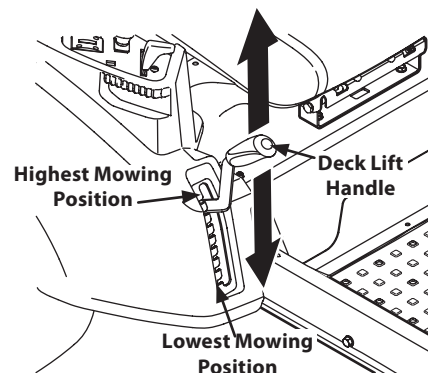

Figure 4-12
- a. Using the deck lift handle, raise the deck to the position that provides the most horizontal run of the belt between the deck idler pulleys and the PTO pulley on the bottom of the engine. See Figure 4-12.
- d. Lower the deck into the lowest mowing position using the deck lift handle. See Figure 4-12.
- e. Lower the deck into the lowest mowing position using the deck lift handle. See Figure 4-12.
8. Place the deck lift handle into the highest mowing position and slide the deck out from beneath the tractor. See Figure 4-12.
1. Place the deck lift handle in the highest mowing position. See Figure 4-12.